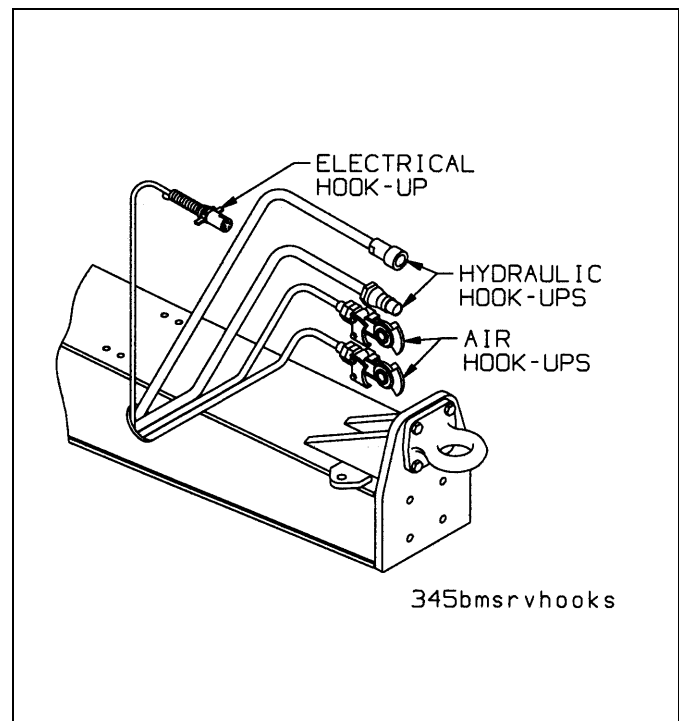

Figure 3-1: Service Hookups
6. Connect the service and emergency air hoses of the towing vehicle to their respective glad-hand on the trailer. The towing vehicle's air hose couplings are attached and locked to the appropriate glad-hands; **red emergency line** to the glad-hand with the **"EMERGENCY"** tag, and the **blue service line** to the gladhand with the **"SERVICE"** tag (See **Figure 3-1.**)
1. Connect the electrical receptacle on the front of the trailer to the towing vehicle (See Figure 3-1.) Insure all lights function properly when energized by towing vehicle electrical action.